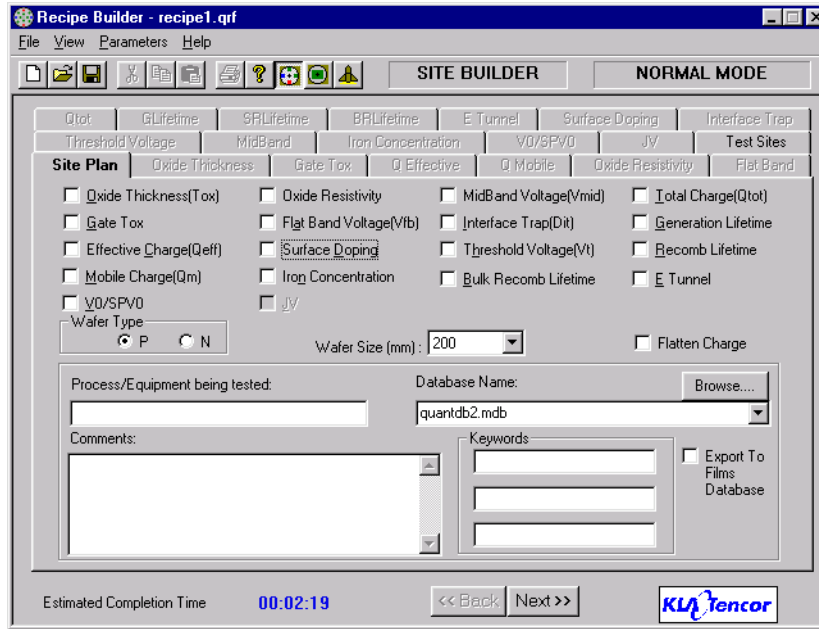

Figure 3-1: Recipe Builder, Site Plan
- The Site Plan (Figure 3-1) is used to define tests that measure individual sites on the wafer (site tests).